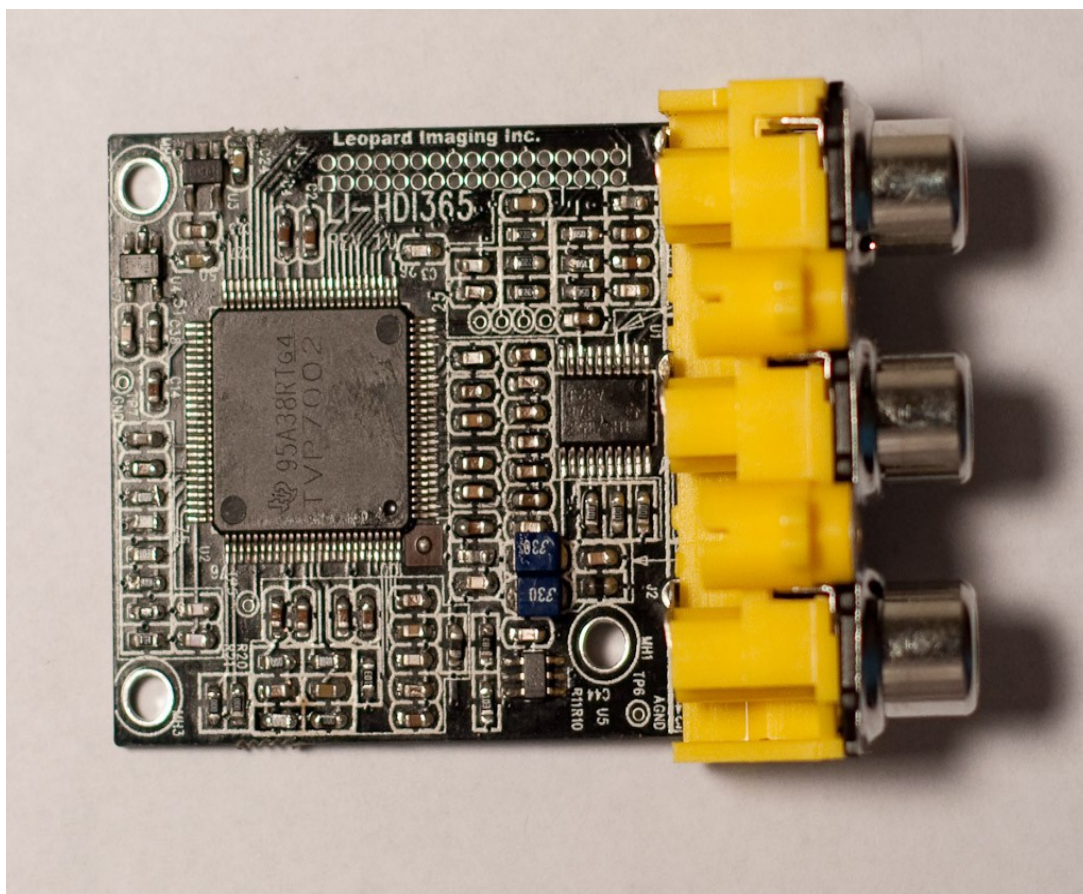

Figure 18. HD Component
1.2.7 HD Component Video Input Board, see Figure 18